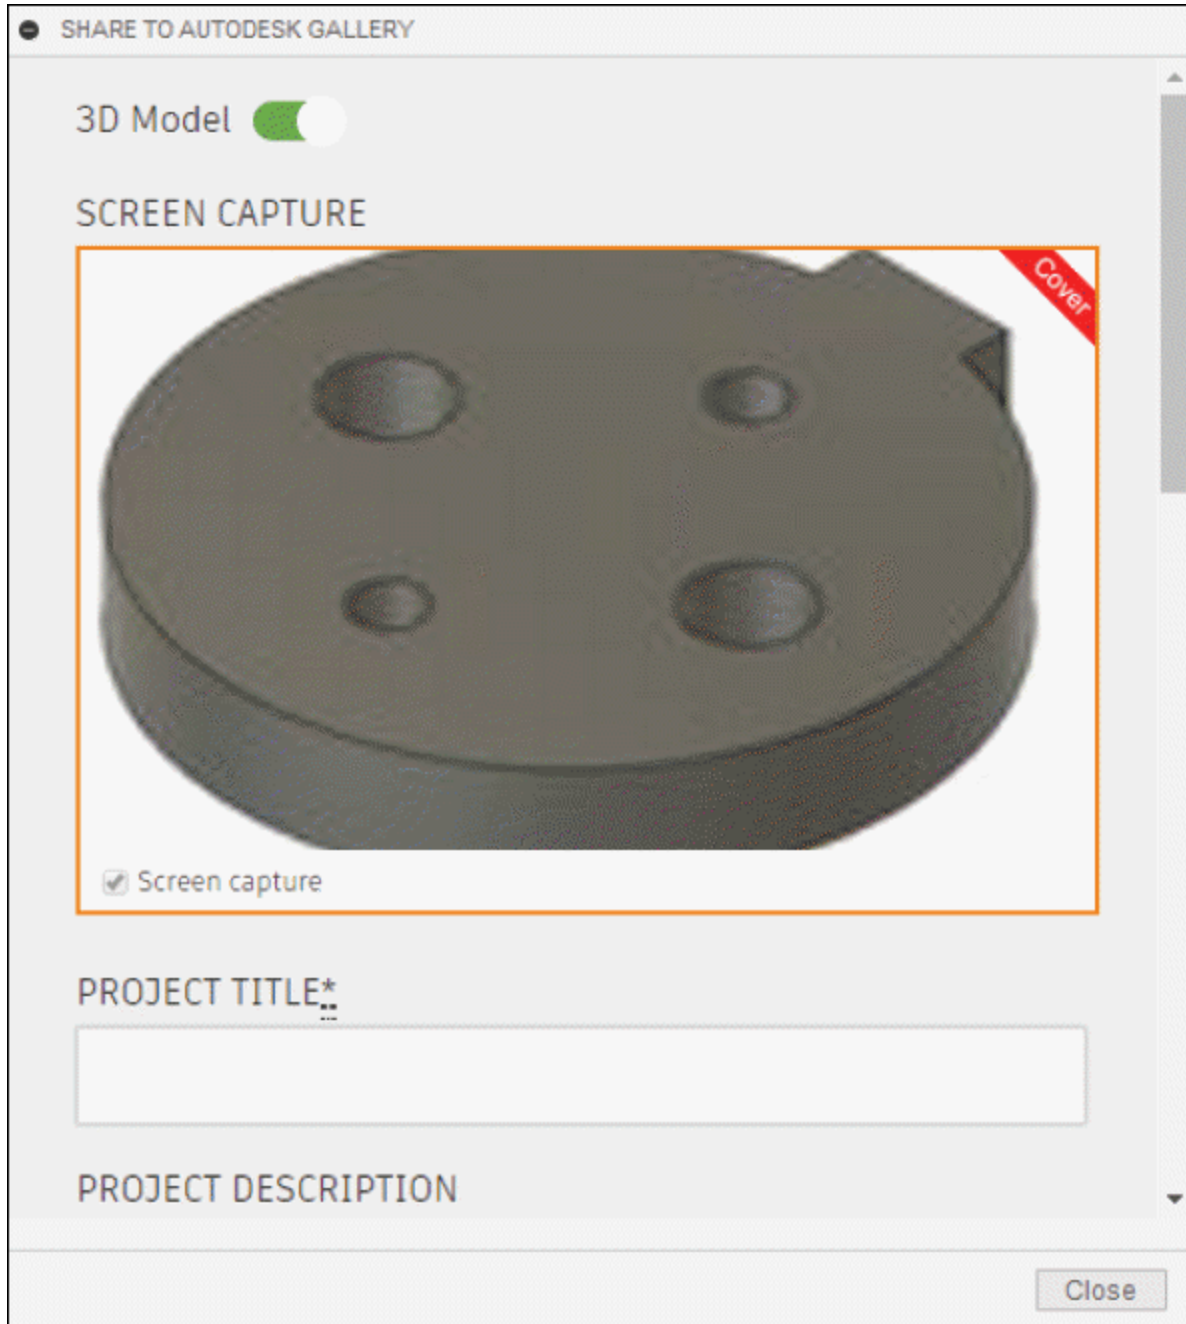

Figure-74. Screen Capture Of 3D Model
- Click on the **NEW PROJECT** button from the dialog box. The options will be displayed as shown in Figure-74.